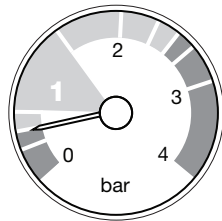

Fig. 2
2. It may be necessary to repressurise the system occasionally (Fig. 2). The needle will be in the lower RED section of the gauge, between 0 and 0.5.